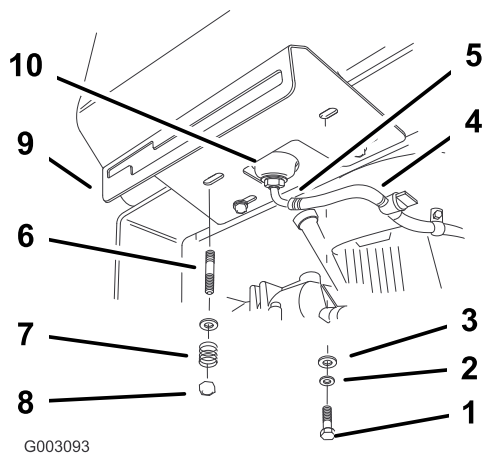

Figure 6
6. Secure the right side of shift lever plate and fuel tank to the rear frame with 2 bolts (5/16 x 7/8), lock washers (5/16 inch) and washers (5/16 inch) (Figure 6).
7. Secure the left side shift lever plate and fuel tank to the rear frame with washers (5/16 inch), springs and locknuts (5/16 inch) Figure 6).